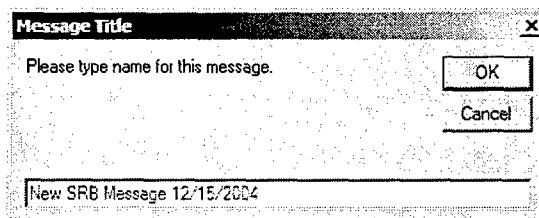

Figure 32. Message Title for Official Plan
- Type in a Message Title. This title establishes the naming convention for the Access tables created for the new SRB message (see Figure 32).